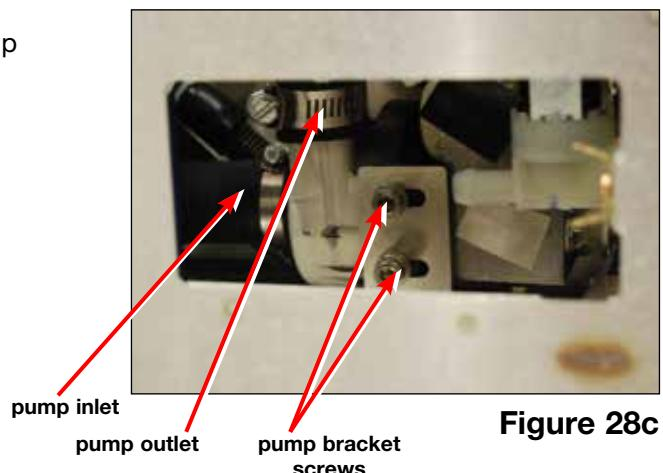

Figure 28c
- 5. Loosen the hose clamp from pump outlet. (Figure 28c)
remove the 2 screws holding pump to bracket. (Figure 28c)